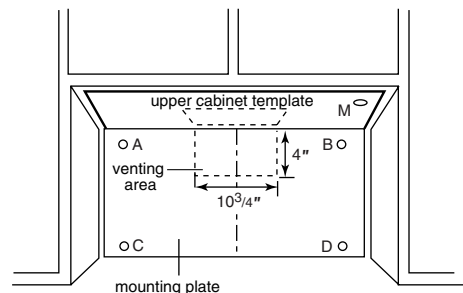

Figure 19
4. Using the mounting plate, mark the position for attaching it on the wall with pencil. If you want wall vented installation, mark the position of ventilation rectangular hole (10³/₄"X4") on the wall too. See Figure 19.
5. Measure the bottom of the upper cabinet frame. Trim the edges power supply cord hole on the upper cabinet template so that the template will fit on the bottom of the upper cabinet. If upper cabinet has a recessed frame, trim the template so it fits inside the recessed area. Align the centerline of the upper cabinet template with the centerline of the wall template, then securely tape or tack the upper cabinet template in place. See Figure 19.
- **WALL-VENTED:** cut out the marked area on the wall. See Figure 19.